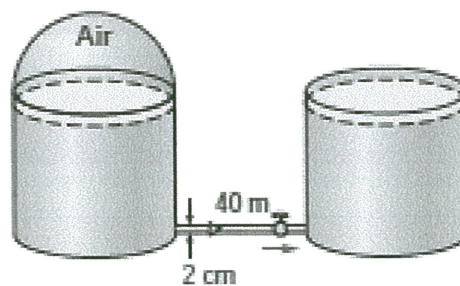

FIGURE Q3 (b)
- (b) Two water reservoirs A and B at **FIGURE Q3 (b)**, are connected to each other through a 40-m-long, 2-cm-diameter cast iron pipe with a sharp-edged entrance. The pipe also involves a swing check valve and a fully open gate valve. The water level in both reservoirs is the same, but reservoir A is pressurized by compressed air while reservoir B is open to the atmosphere at 88 kPa. Take the water temperature to be 10°C. If the initial flow rate through the pipe is 1.2 L/s, determine.